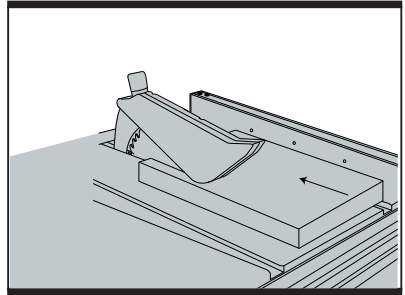

Fig 19
- 6) When the width of rip is more than 150 mm, feed the workpiece with one or both hands continuously until it is beyond the saw blade and riving blade (See fig. 19).